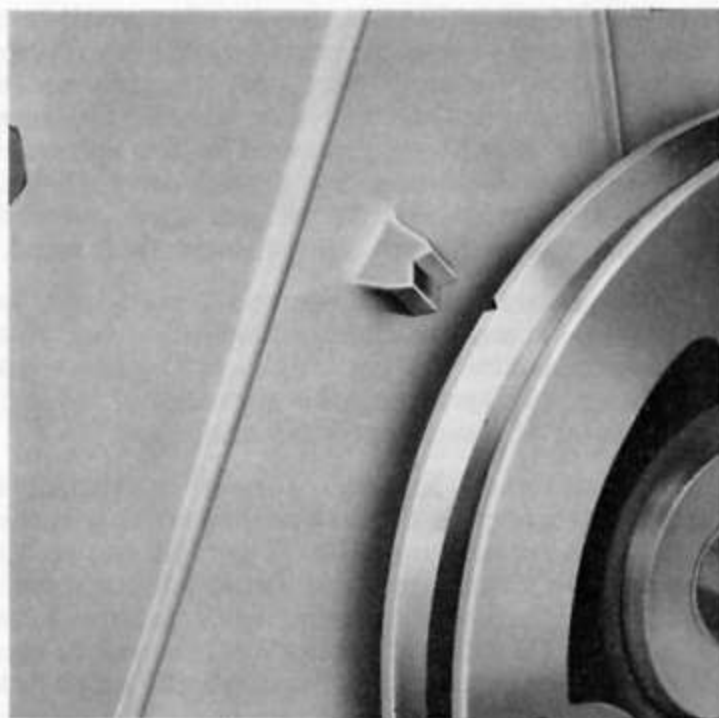

Fig. 30
1. Set the engine, with the upper timing mark on the timing cover in line with the notch in the crankshaft pulley as No. 1 piston comes up on the compression stroke (see Fig. 30).
(b) The static advance of 6° before T.D.C. is "built in" to the engine and when No. 1 cylinder is on the compression stroke and the notch on the crankshaft pulley is midway between the upper and lower timing marks on the timing cover (see Fig. 30) the crankshaft is at the static advance setting and no further adjustment is required at this stage, see operation 5.
Continue turning the engine until the notch on the crankshaft pulley is midway between the upper and lower timing marks on the timing cover (see Fig. 30).
6. Point the timing light at the timing indicator. Check that the upper indicator and the notch on the pulley are in line (see Fig. 30).